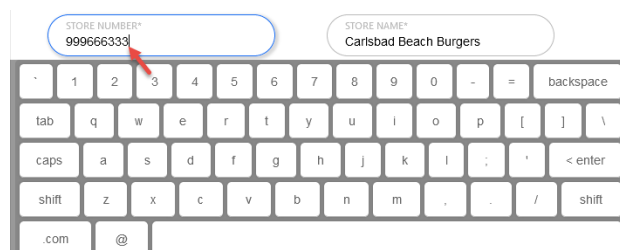

Fig. 1.11
**Direct Access Fields:** These are fields you can type directly into. When you click the cursor or tap in this field, a pop-up keyboard opens (see Fig. 1.11). This allows you to enter information using a mouse (without the need for a physical keyboard).